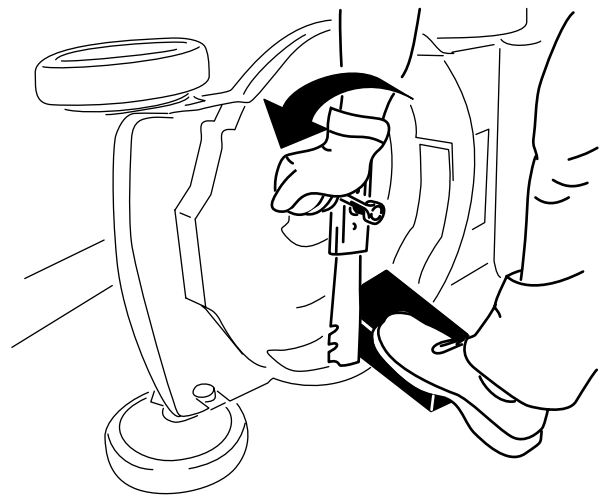

Figure 34
3. Use a block of wood to hold the blade steady (Figure 34).
4. Remove the blade, saving all mounting hardware (Figure 34).